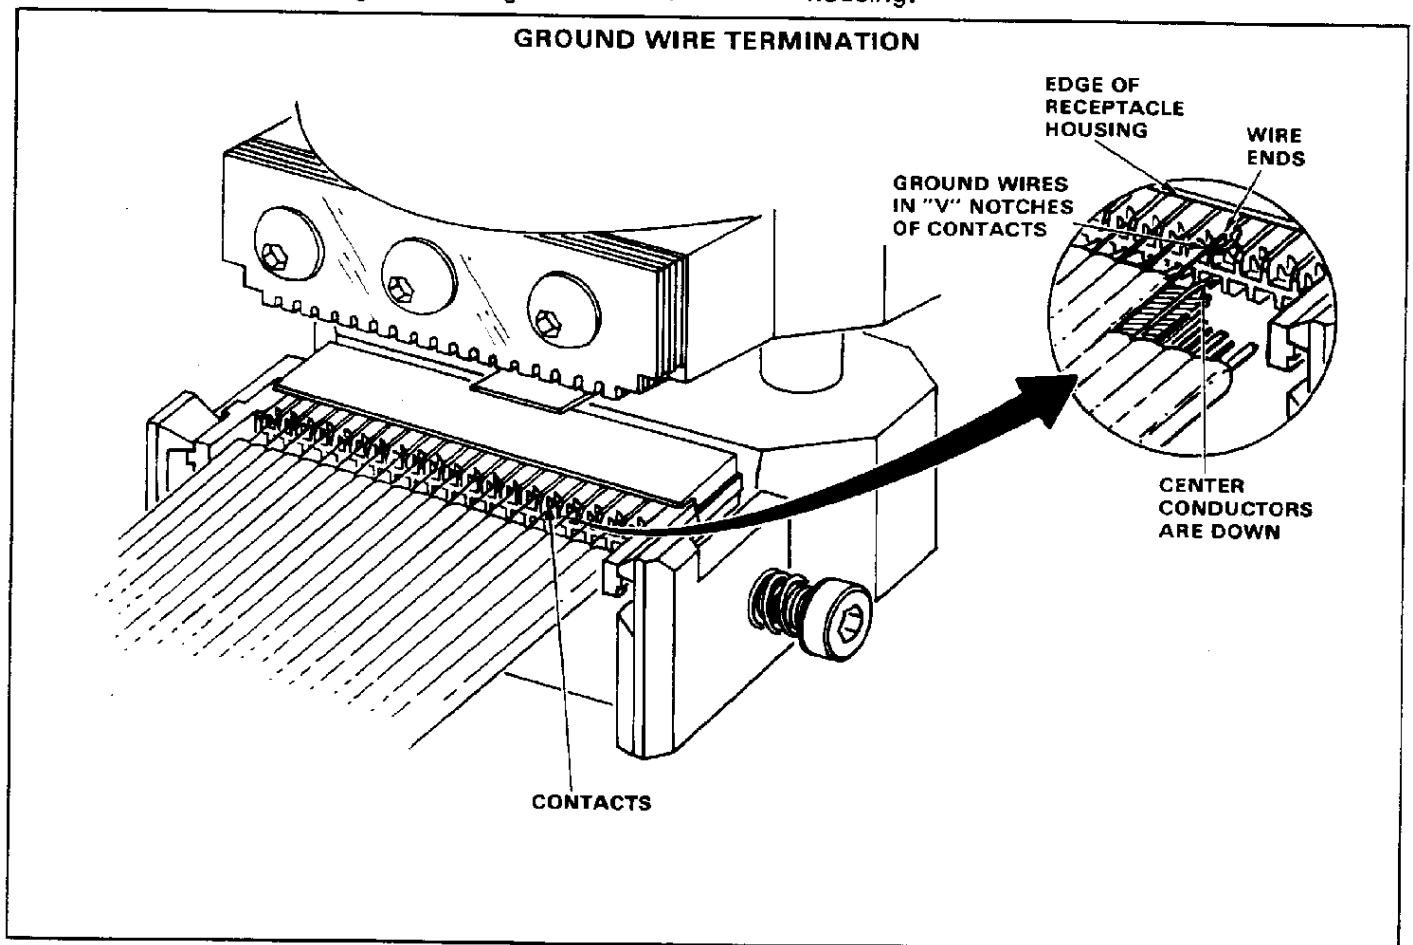

Fig. 5
2. Lay ground wires on contacts as shown in Figure 5. If necessary, use comb to align wires with "V" notches of contacts.
NOTE Center conductors are down, as shown in breakaway view of Figure 5.
3. Ensure that wires extend through at least *half the distance* between contacts and housing. See Figure 5.